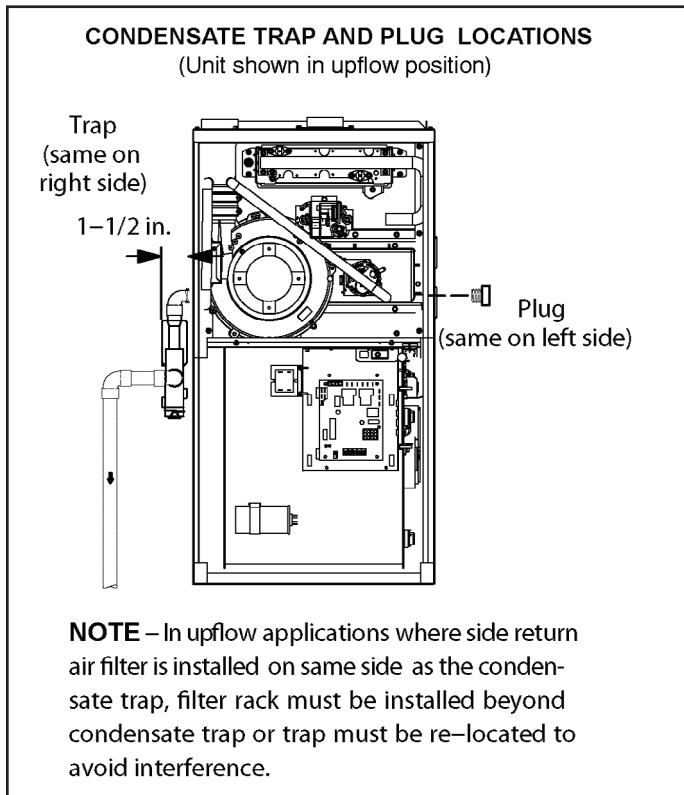

Figure 52.
Refer to Figure 52 and Figure 53 for condensate trap locations. Figure 58 shows trap assembly using 1/2" PVC or 3/4" PVC.
2. Use a large flat head screw driver or an 1/2" drive socket extension and remove plug (Figure 52) from the cold end header box at the appropriate location on the side of the unit. Install provided 3/4 NPT street elbow fitting into cold end header box. Use Teflon tape or appropriate pipe dope.